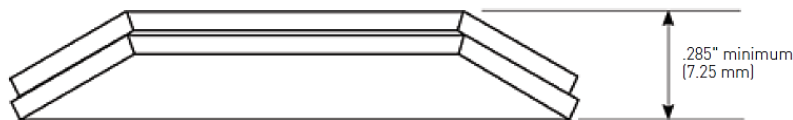

FIGURE 3A
2. Carefully clean and dry the contact surfaces of the cover (2) inside and where it contacts the gauge body. Clean the surfaces of the gauge body contacted by the cover, and clean the surface of the washer (5) to remove all traces of the cushion gasket (6).
3. Inspect the condition of the cover (2) for distortion due to previous over-tightening of bolts or indentation from spring cone contact. Place the cover over its contact surface on the body. The cover and body must make firm, flat contact. Manually check for rocking of the cover on the body surface. Replace cover if damaged.
5. Inspect the spring cones. Replace them if they are damaged or corroded or if the spring cones stack height is below .285 inch (7.25mm). See Figure 3A.